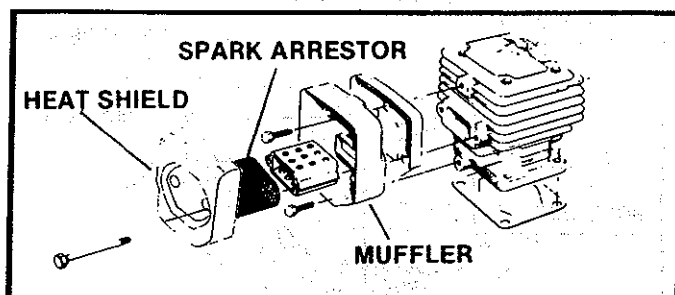

Figure 38
- b. Remove the muffler, baffles, and screen. Figure 38.